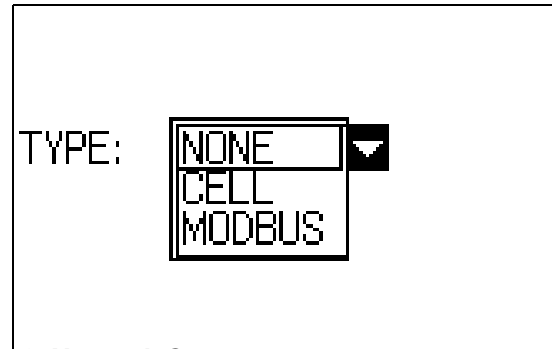

FIG. 42: Network Setup screen
1. On the Configuration screen (see FIG. 19), select NETWORK from the list of setup screens, and press Enter to display the Network Setup screen (see FIG. 42).